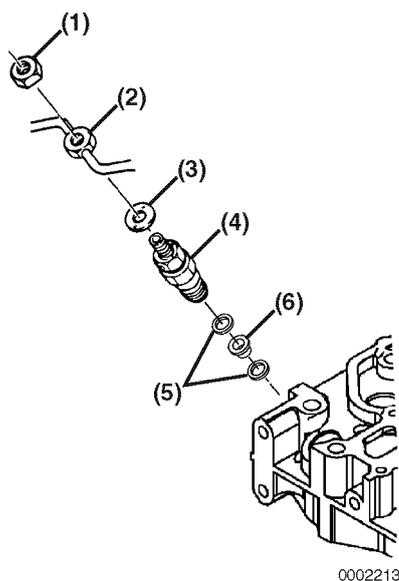

Figure 7-30
4. Remove nut (**Figure 7-30, (1)**). Remove the fuel return line (**Figure 7-30, (2)**) and copper washer (**Figure 7-30, (3)**) from the fuel injectors. *See Removal of Fuel Return Line on page 7-11.*
5. Remove the fuel injectors (**Figure 7-30, (4)**).
- 6. Remove the injector nozzle gaskets (Figure 7-30, (5)) and protector (Figure 7-30, (6)) from the cylinder head.